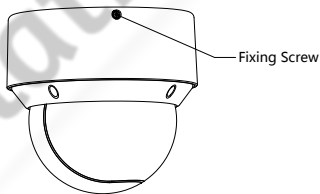

Figure 2-54 Tighten the Fixing Screw
After DE4AxxxI series (IR) PTZ camera is installed, tighten the fixing screw with a screwdriver as shown in Figure 2-54.